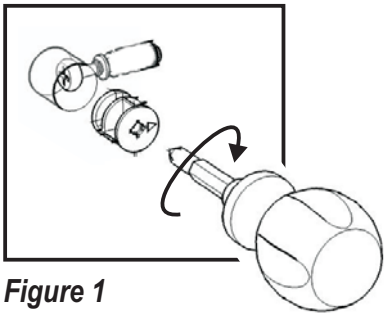

Figure 1
Attach Front Rails (F), (G) and Base (E) to Side Panel (C) with Cam Locks (see Figure 1) and Head Cap Bolts. (See Figure 2)